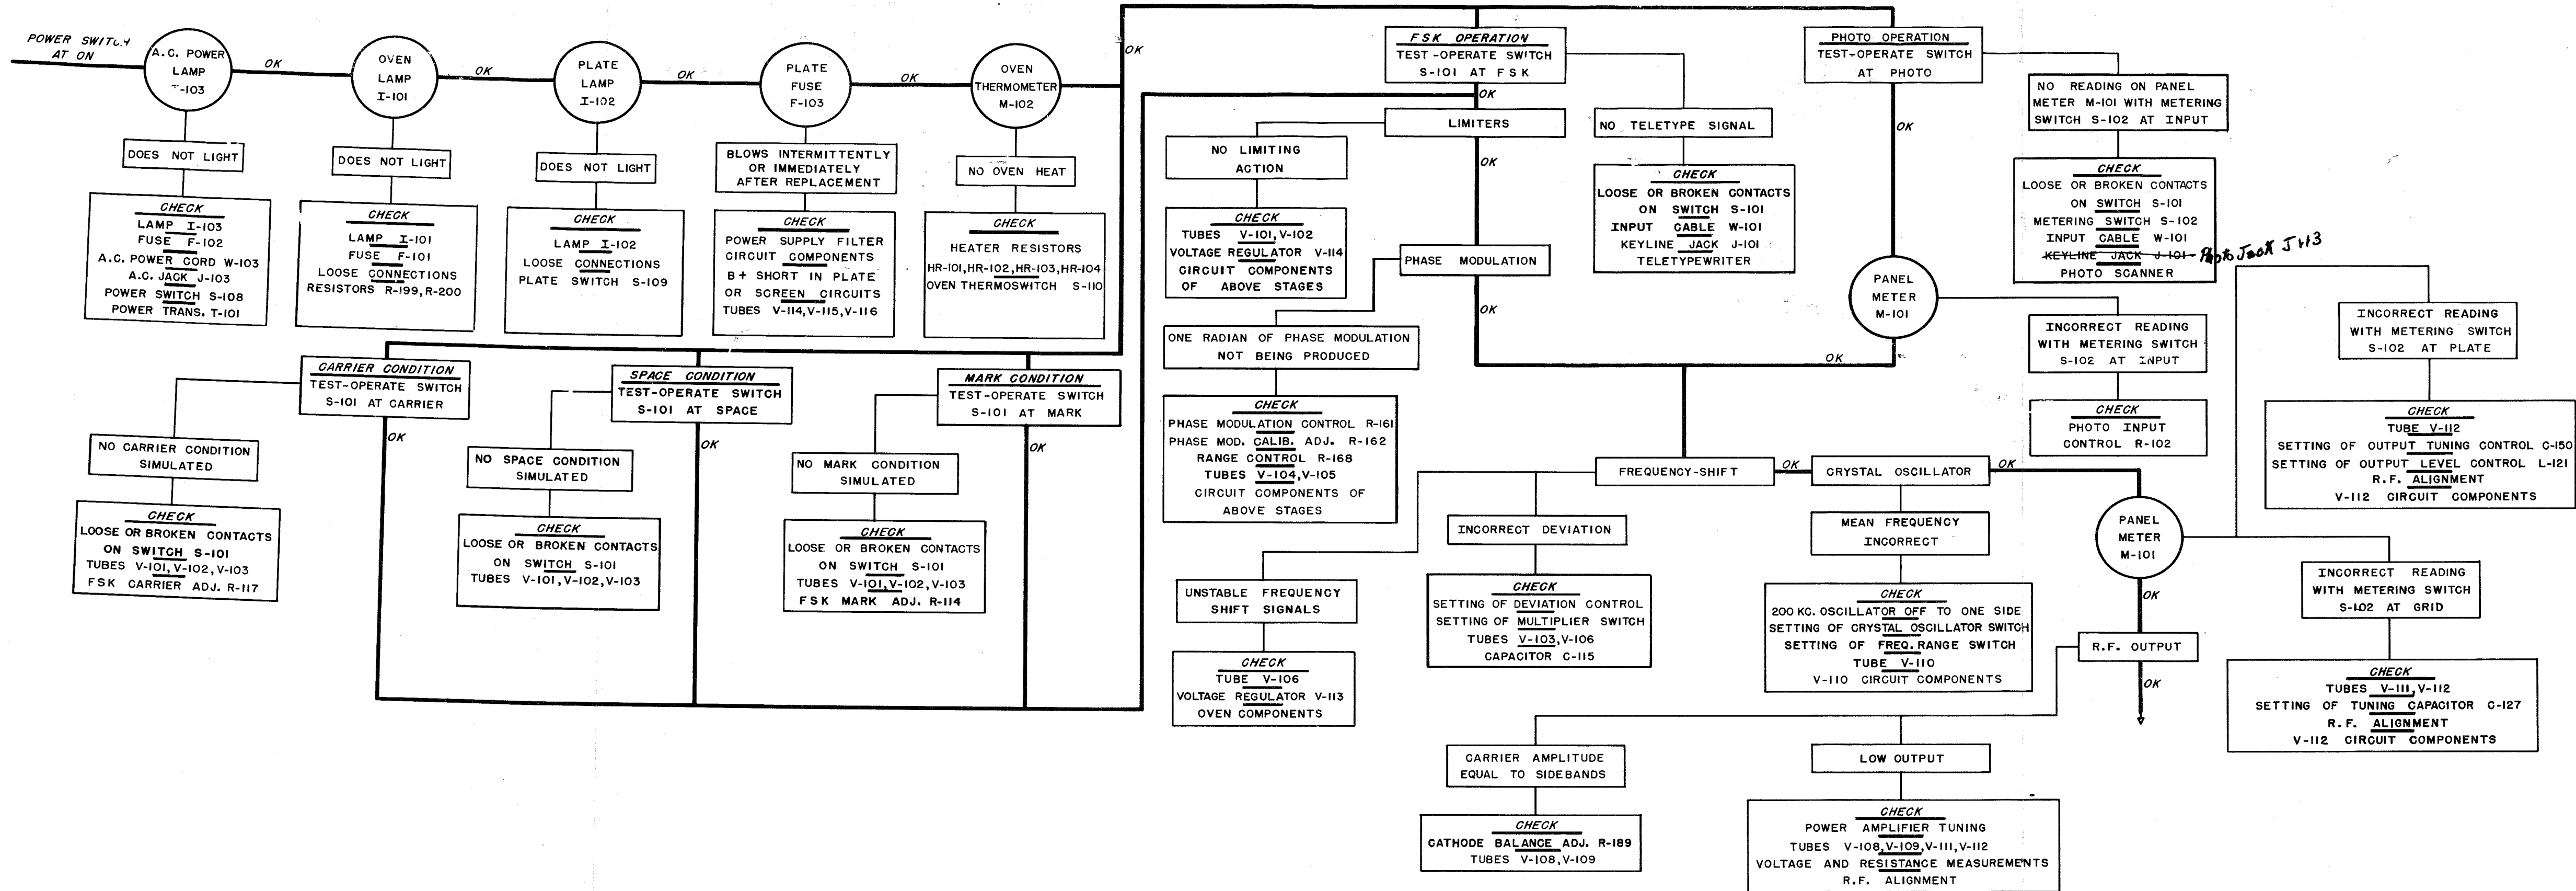

Figure 7-2. Trouble Shooting Chart
Figure 7-2 is a trouble shooting chart which lists in logical sequence a series of checks to be made to locate quickly the specific circuit causing faulty keyer operation. The trouble shooting chart does not list all possible troubles. However, it does list those that are most likely to occur. In most cases, the use of the chart will localize a source of trouble sufficiently well to enable its precise location by voltage and resistance checks in the suspected area.
a. GENERAL.—The location of troubles in the keyer can be accomplished by making the series of checks outlined on the trouble shooting chart, Figure 7-2. To read this chart start at the left hand side and follow the heavy black line to the right. An 'ok' following a specific circuit signifies that this circuit is operating properly and the maintenance man may proceed to the next stage. If a particular circuit is inoperative a series of checks pertaining to that circuit is shown in lighter lines adjacent to its position on the chart. A six-foot three-inch service cable W-109 is supplied with the KY-75/SRT to enable the maintenance man to remove the individual chassis from the cabinet and service the unit on a test bench. To use this cable connect it between the connector on the inside of the cabinet and the connector on the chassis being serviced. Refer to para. 5. (1) for the method of removing the chassis from the KY-58/GRT. Tubes should be checked in suitable tube testing equipment or by replacement with tubes of proven quality. Specific stages and their components can be checked by performing voltage and resistance measurements as outlined in Figures 7-3 and 7-4. Constant reference to the schematic diagram Figure 7-21 and the practical wiring diagram, Figures 7-22, 7-23 and 7-32 is required for efficient trouble shooting. A thorough inspection of the keyer and its external connections should be made before attempting any adjustments or repairs.